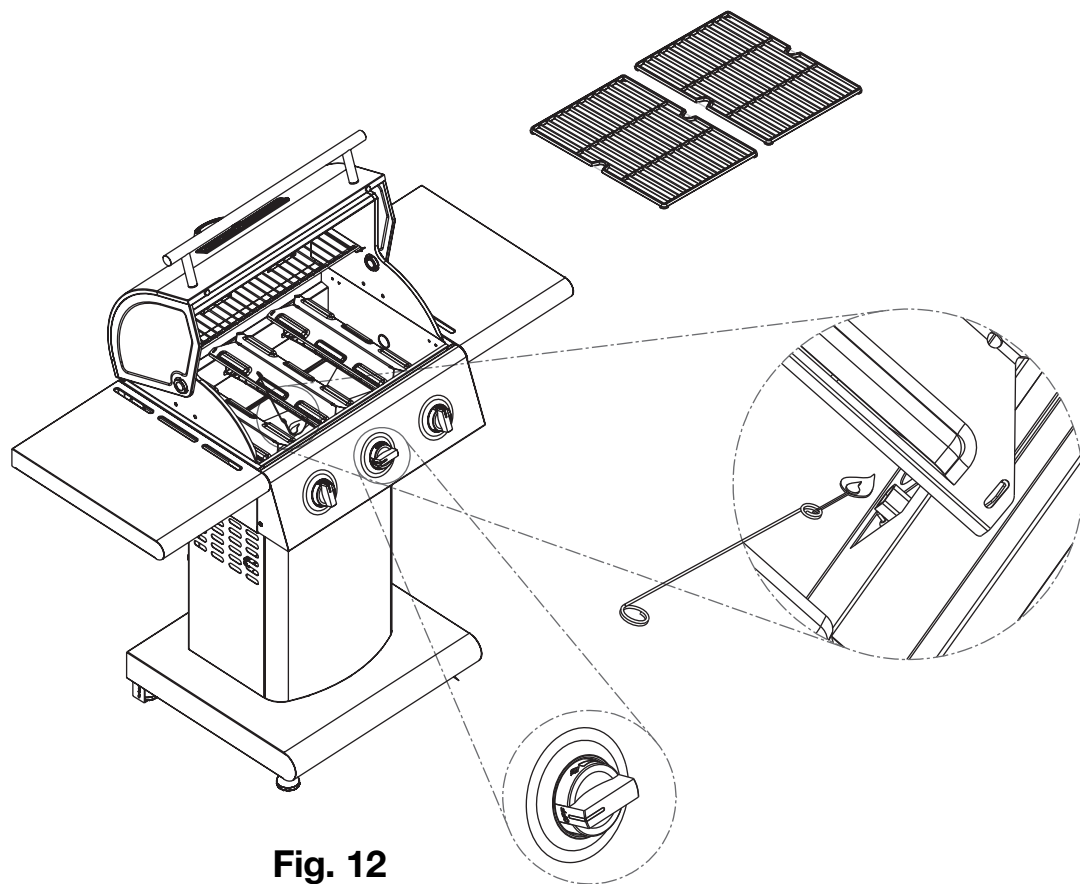

Fig. 12
3. Turn a control knob to the ignite position () as shown in **Fig. 12**.
4. Remove match holder from knot on side of base. Place a lighted match between the coils on the end of the match holder and hold next to the burner to ignite as shown in **Fig. 12**. If ignition does not occur in 5 seconds, turn the burner control knob OFF and contact Consumer Affairs.